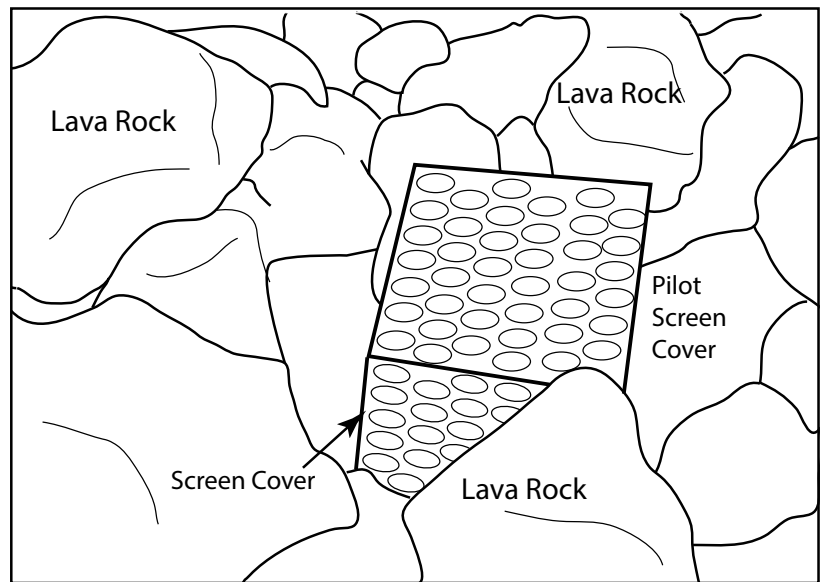

Fig. 11 Ensure pilot screen cover is not blocked with media.
Step 11: Install the ignition hood screen. Ensure no media covers hood. See Fig. 11. Install the lava rock/media material according to fire pit install manual then turn the main gas supply back ON.